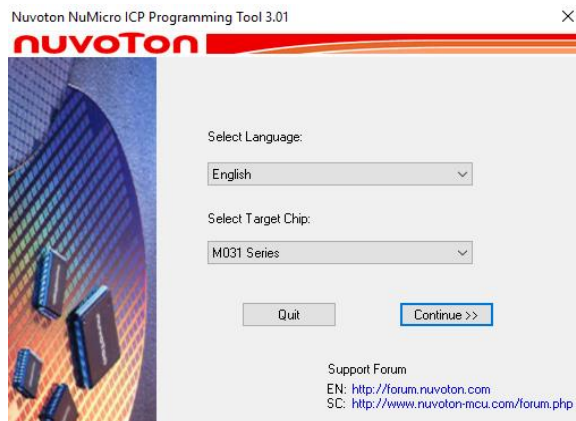

Figure 5.2-1 Startup Screen of ICP Tool
- (1) Download and install Nuvoton NuMicro® ICP Programming Tool.
- (2) Open the ICP Tool, specify the **UI language** and **target chip**, and then click **Continue**, as shown in Figure 5.2-1.